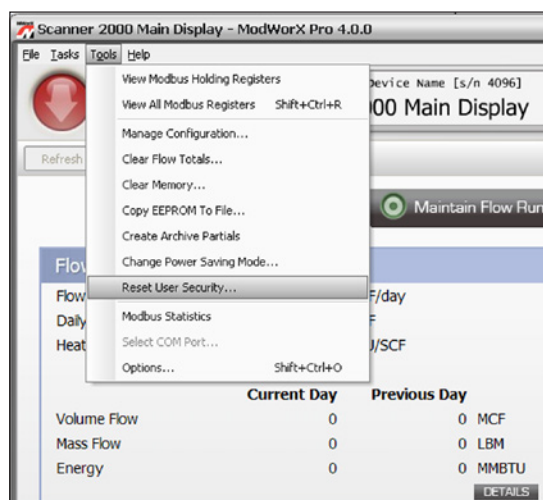
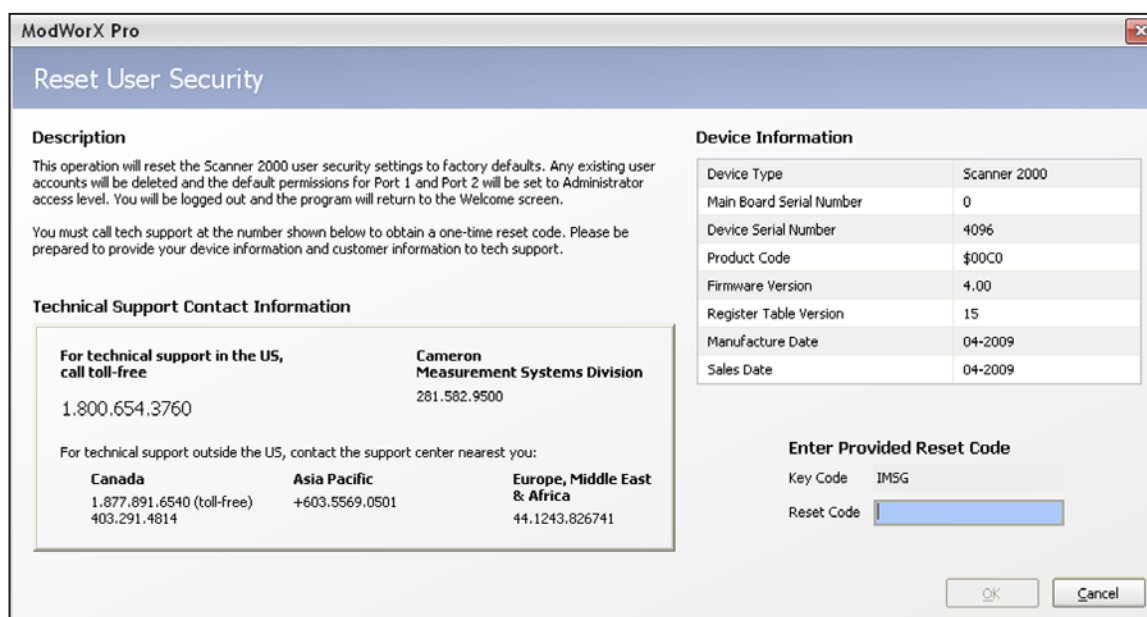

Figure A.13
Figure A.14
1. Click **Tools>Reset User Security** in the task bar (Figure A.13). The Reset User Security screen shown in Figure A.14, page A-15, will appear. Note that the device serial number and key code are displayed on this screen. You will be asked to provide both numbers during the reset process.